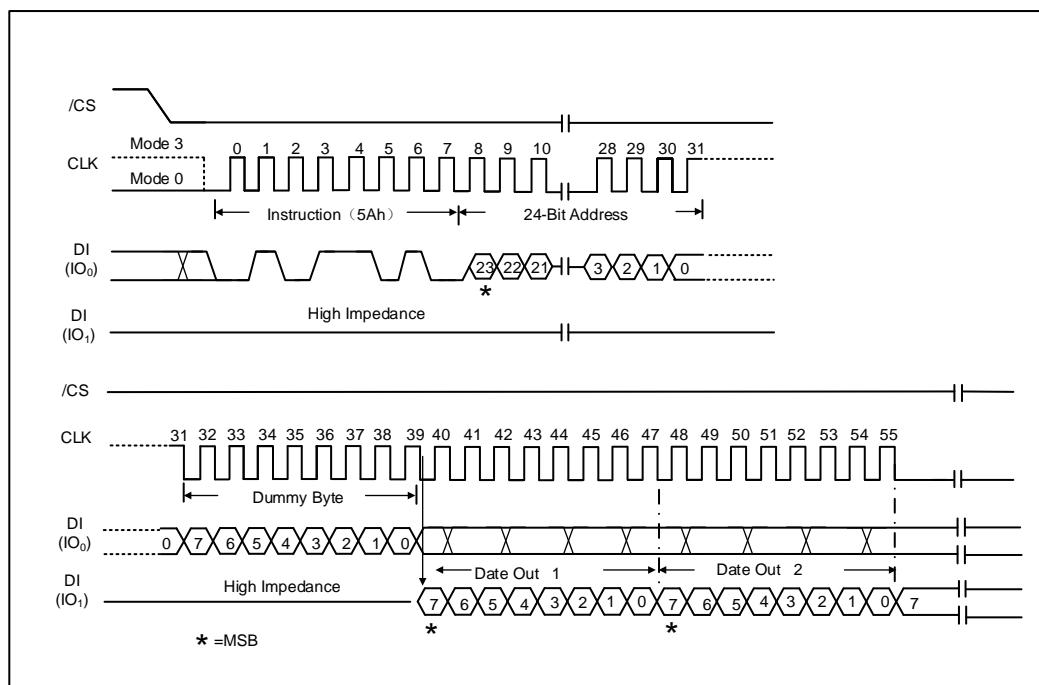

Figure 34. Read SDFP Register Instruction Sequence Diagram (Only SPI Mode)
The Read SDFP instruction is initiated by driving the /CS pin low and shifting the instruction code “5Ah” followed by a 24-bit address (A23-A0)(1) into the DI pin. Eight “dummy” clocks are also required before the SDFP register contents are shifted out on the falling edge of the 40th CLK with most significant bit (MSB) first as shown in Figure 34. The byte address is automatically incremented to the next byte address after each byte of data is shifted out. The last byte address of the register is FFh (the data will always be FFh when read after the last address). For SDFP register values and descriptions, please refer to the XMC Application Note for SDFP Definition Table.